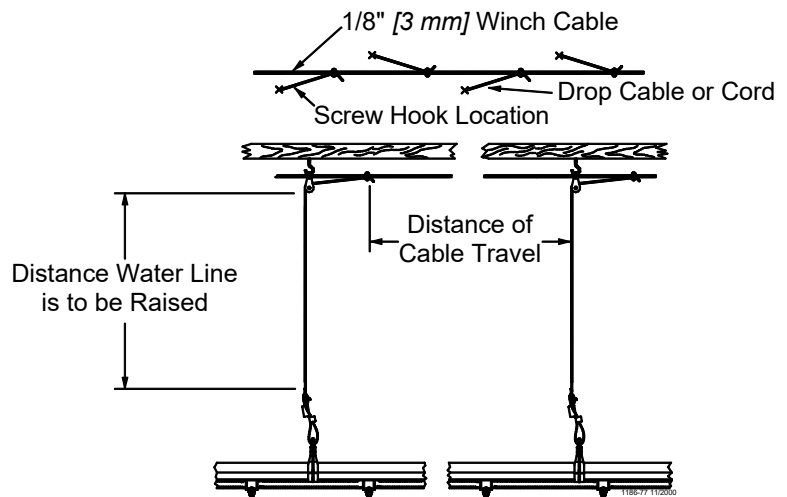

Figure 14. Offset the Screw/Ceiling Hooks
Note: The maximum distance the water line can be raised is equal to the distance of cable travel. (See **Figure 14**).
3. Install the pulley assemblies as shown in **Figure 14**.